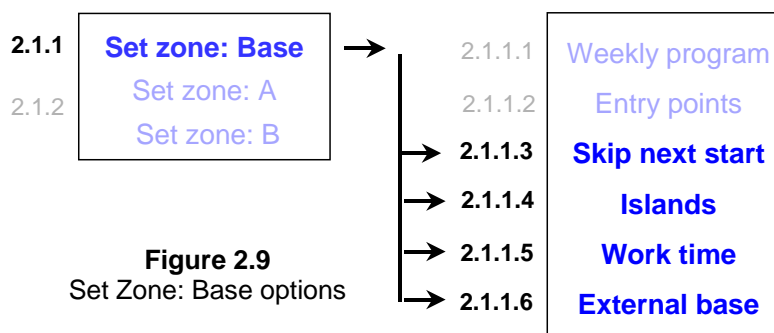

Figure 2.9
The '**Skip next start**' option allows user to skip the next scheduled operation (figure 2.9).
2. Under '**Set Zone: Base**' menu scroll to '**Skip next start**' option and press '**GO**' to set the option (see figure 2.9).
Setting this option to '**off**' allows the mower to acquire the Perimeter Wire immediately as starting to search for the Base Station with no need to converge to the end of the lawn (figure 2.9).